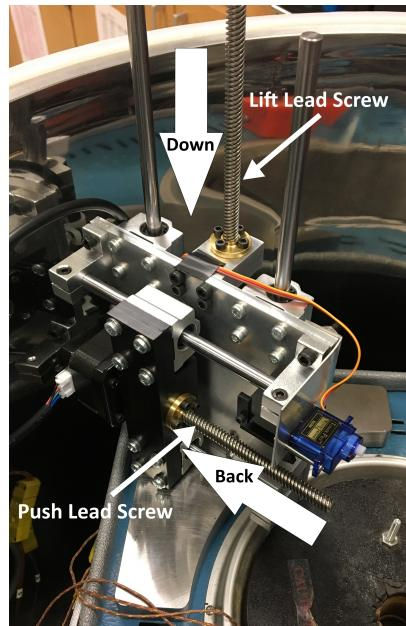

Figure 6: The shutdown position for the ARIA
11. Twist both of the ARIA lead screws by hand such that the mounting plate is all the way down and touching the base plate and the push block all the way back and is touching the horizontal stepper motor. (This is the shutdown position. See Figure 6)